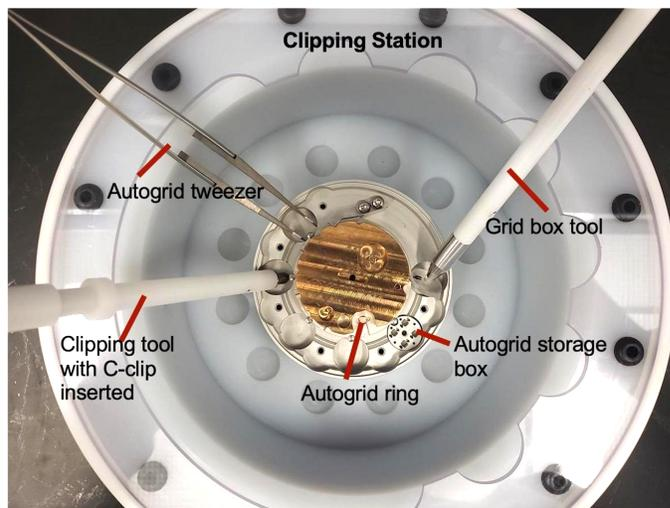

Figure 3. Clipping station with associated tools, labeled.
- 4.2.3. Cool down all of the required tools and place grid boxes in the clipping station (as in Figure 3).